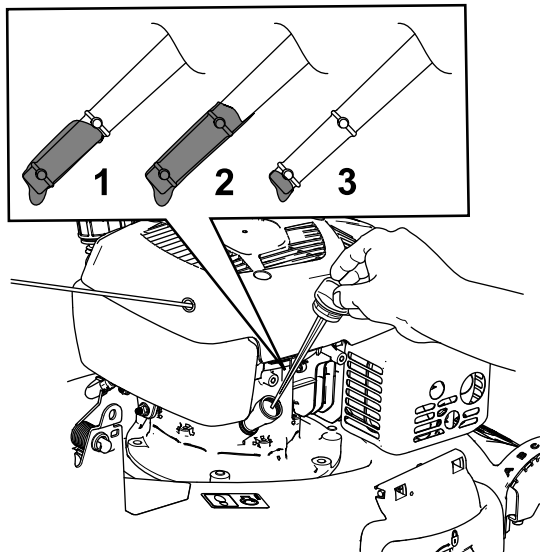

Figure 42
10. Read the oil level on the dipstick (Figure 42).